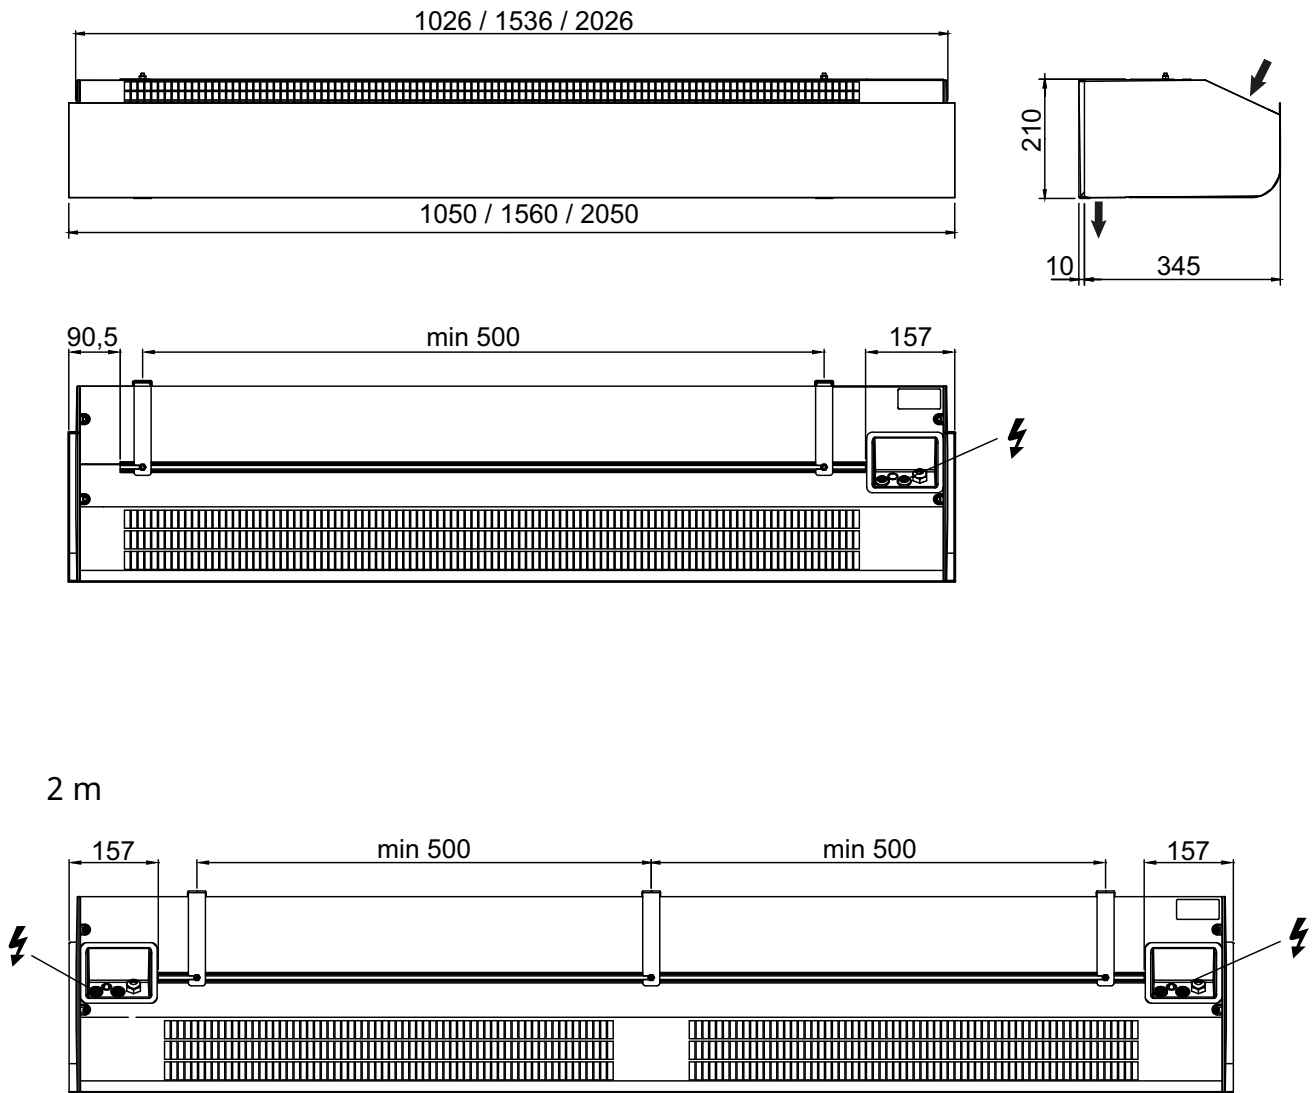

Fig.1
1. Mount the brackets on the wall, see fig.6A and dimension drawing fig.1. If the wall is uneven the brackets must be compensated for this.